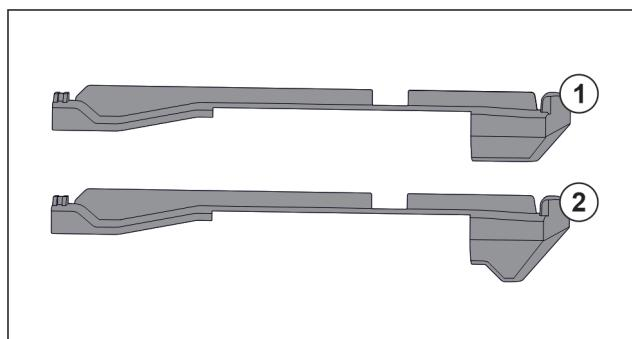

Fig. 84 Comparing attachments
There are two different attachments in the appliance. The attachment above the lowest drawer Fig. 84 (2) has a three-cornered edge. All other attachments Fig. 84 (1) have a straight edge.
- ▶ Fit attachment Fig. 84 (2) with the three-cornered edge above the lowest drawer.
- ▶ Fit attachment Fig. 84 (1) with straight edge in all other positions.